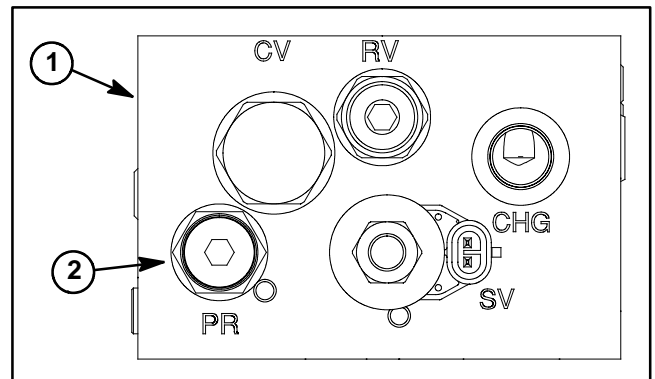

Figure 33
7. Pressure reducing valve (PR) is located on the front side of the 4WD manifold (Fig. 33). Adjustment of this valve can be performed as follows:
C. Recheck reducing valve (PR) pressure setting and readjust as needed.